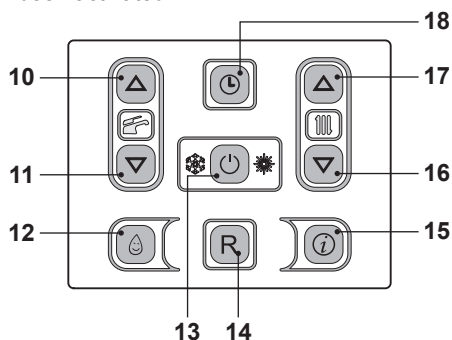
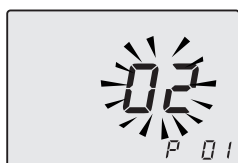

Fig. 8.14
Fig. 8.15
- Enter in "programming mode" by sequentially pressing keys 13 - 16 - 17 (Fig. 8.14) for 10 seconds at the same time until the letters **P01** are displayed on the LCD display, indicating that "parameter 01" (Fig. 8.15) has been activated.
- By pressing key 13 (Fig. 8.14) confirmation of the inserted value is obtained.
- Press keys 16 or 17 (Fig. 8.14) to exit without changing the value.